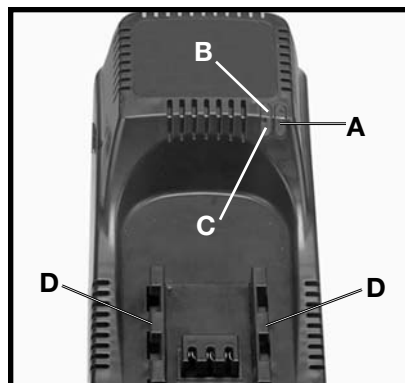
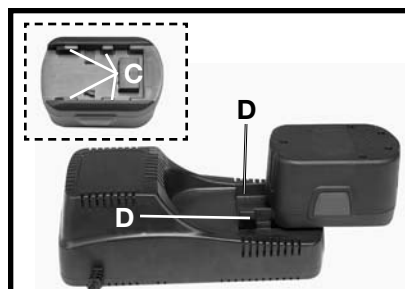

Fig. 5
Fig. 6
Make sure power circuit voltage is the same as that shown on the charger specification plate. Connect charger to power source. The orange light (A) Fig. 5, should light up. This indicates the charger is ready to begin charging.
Position battery pack on charger, align rails (D) Fig. 5 and Fig. 6, on battery charger with four tabs (C) Fig. 6 on battery pack. Slide battery forward onto charger until it stops.
The red light (B) Fig. 5, should begin to glow continuously, indicating that the battery pack is receiving a "Fast Charge" (if the red light does not glow continuously, and the green light (C) Fig. 5, begins to glow: remove battery and re-insert when battery temperature is between 40°F (4.4°C) and 104°F (40°C). After approximately one hour, the "Fast Charge" indicator light (red) should go out indicating that the battery pack is fully charged and that the charger is now in a "Trickle Charge" mode (green light). The battery pack can be left on "Trickle Charge" until you are ready to use it.